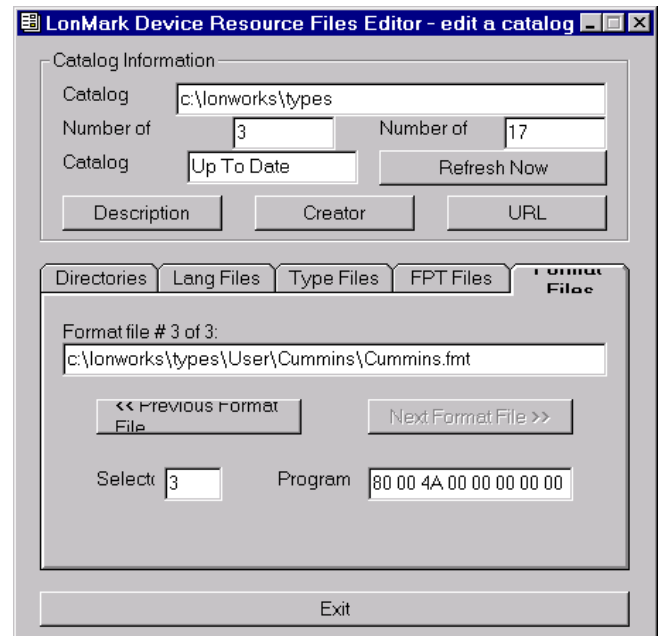

FIGURE G-6. FORMAT FILES TAB
- g. Select the “Format Files” tab and confirm that “Cummins.fmt” is included by selecting the “Next Format File” button until “Cummins.fmt” appears (see Figure G-6). Do the same with “Type Files” and confirm that “Cummins.TYP” appears.